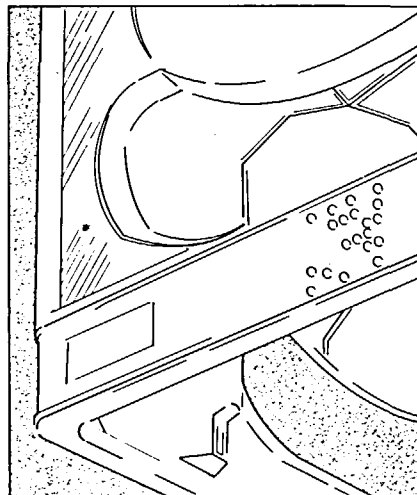

Figure 1. Use of Dotcodes on Beer and Lemonade Crates
- Dotcodes on beer and lemonade crates give information about the production of the crate and its contents. The brewery uses this information to sort crates automatically and to take specified crates out of circulation. The dotcode is used here because of the cheapness of the application, the small size and the small risk of damage (see Figure 1).